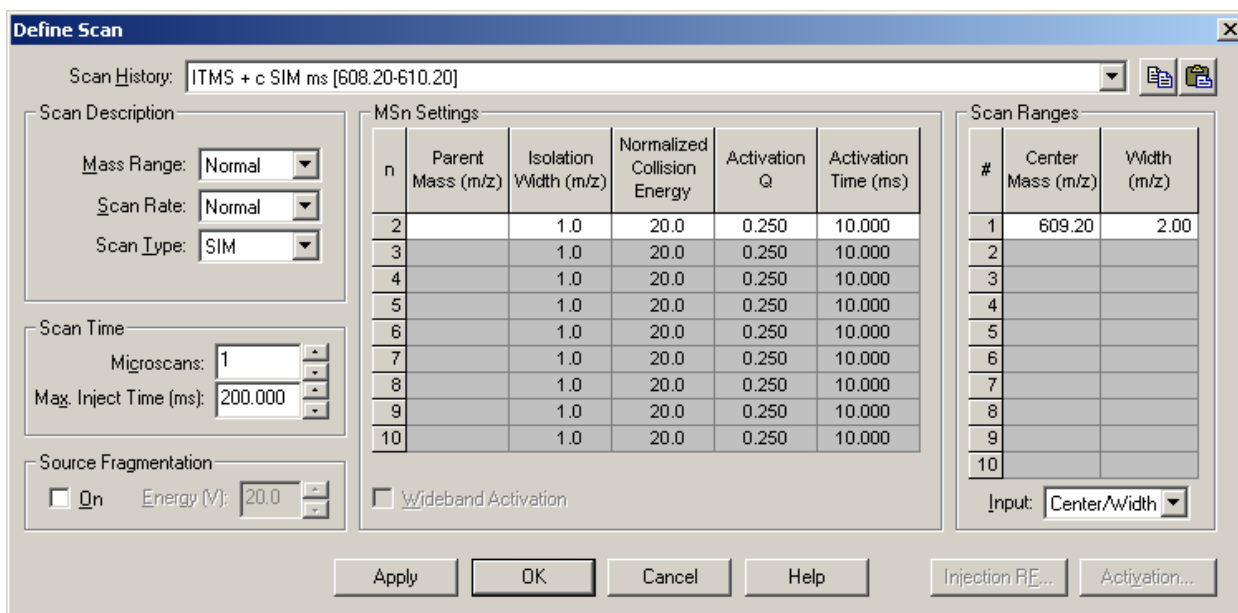

Figure 4-3. Define Scan dialog box, showing typical settings for acquiring reserpine data of the SIM type
- a. In the Instrument Control toolbar, click on the Define Scan button to open the Define Scan dialog box. See Figure 4-3.
- k. Ensure that the settings in your Define Scan dialog box are the same as those shown in Figure 4-3.